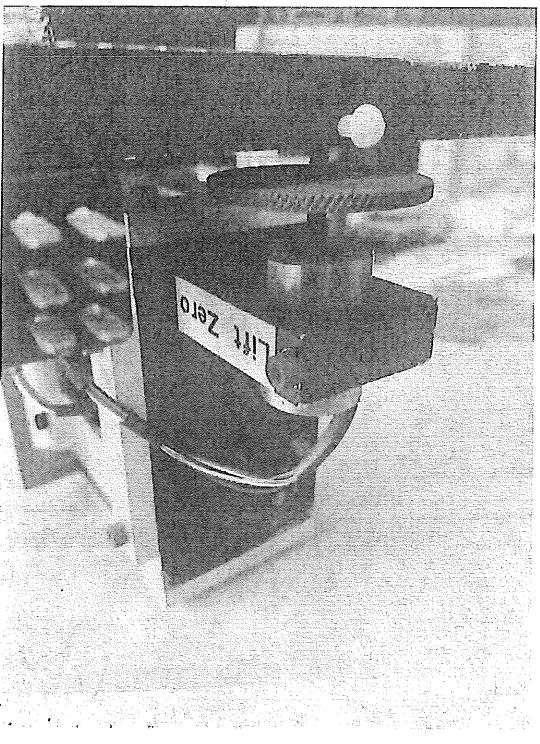

Figure 5:Lift zero thumb wheel.
4. Zero the meter display by adjusting the LVDT thumb wheel shown in Figure 5.